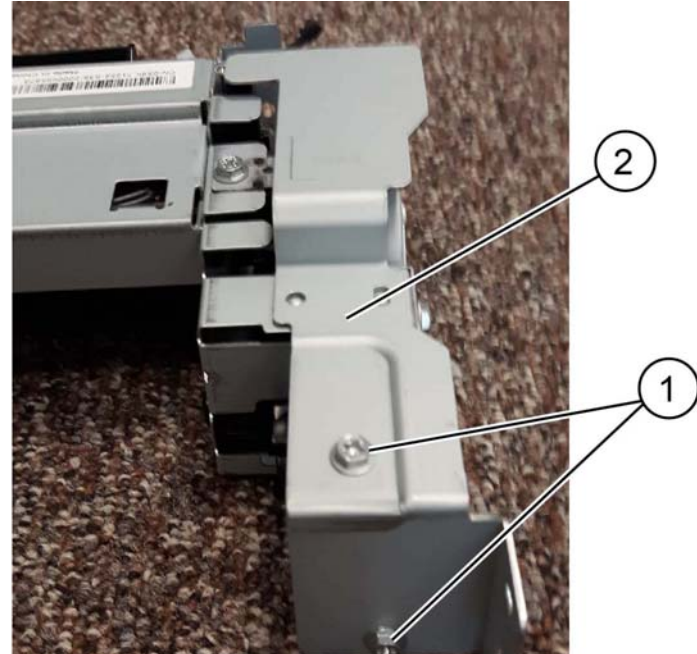

Figure 6 Feeder cover removal
9. Remove the feeder cover from the main tray 3 feeder, Figure 6.
- a. Remove two screws (1).
- b. Remove the feeder cover (2). Retain the cover for installation onto the new tray 3 feeder assembly.
Ensure that the feeder cover is installed onto the new tray 3 feeder assembly. Refer to Figure 6.